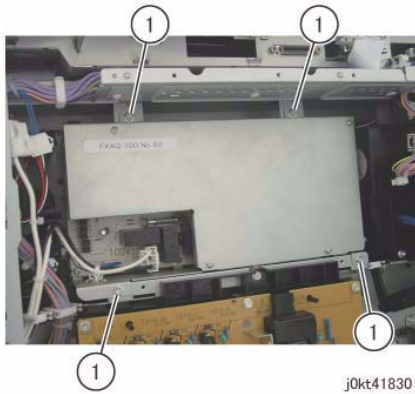

Figure 5 Remove the screws
6. Remove the screws (x4) that secure the IH Driver PWB. (Figure 5)